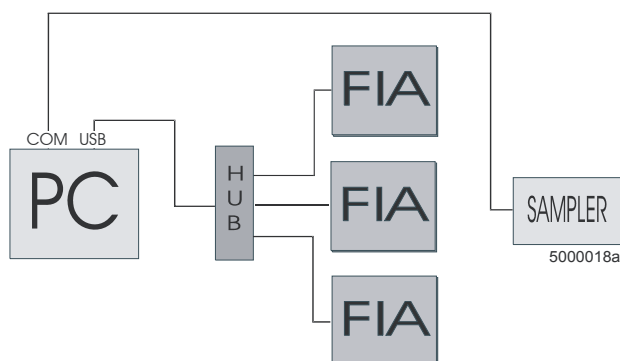

Fig. 5:32 Connection of Analyzer and Sampler to PC
10. Make sure the FIA ID SWITCH is in position 1, 2 and 3 on respective modules, see Fig. 5:26.